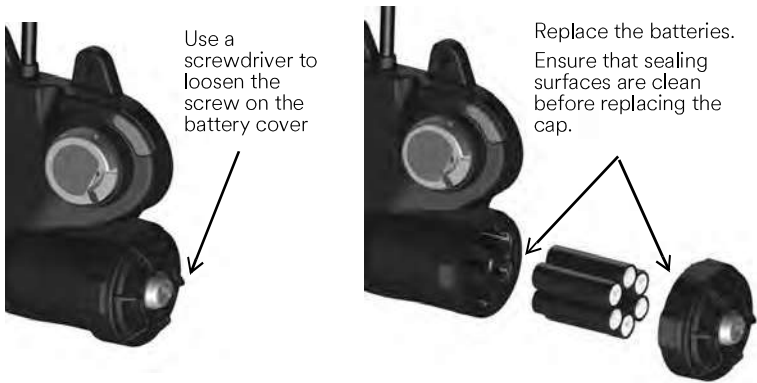

Figure 4-1 Replacing batteries in a respirator with PASS
- 5 Using a Phillips screwdriver, remove the screws of the battery housing cover as shown in Figure 4-1. Carefully remove the cover and set it aside.